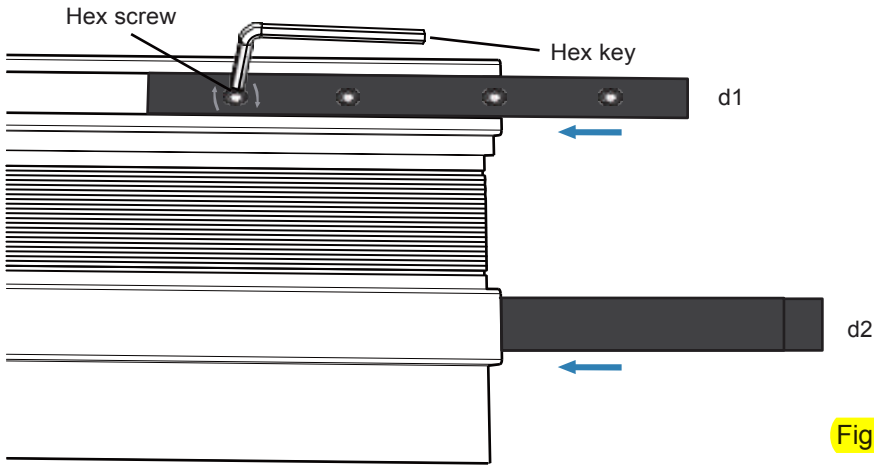

Fig. 7
4. Tighten the hex screw clockwise to secure the half of the connector connect to the track. (Refer to Fig. 7)
6. Again, ensure the heads of the hex screws are accessible, and secure the second connector in position by tightening the hex screw anti-clockwise (Refer to Fig. 7).